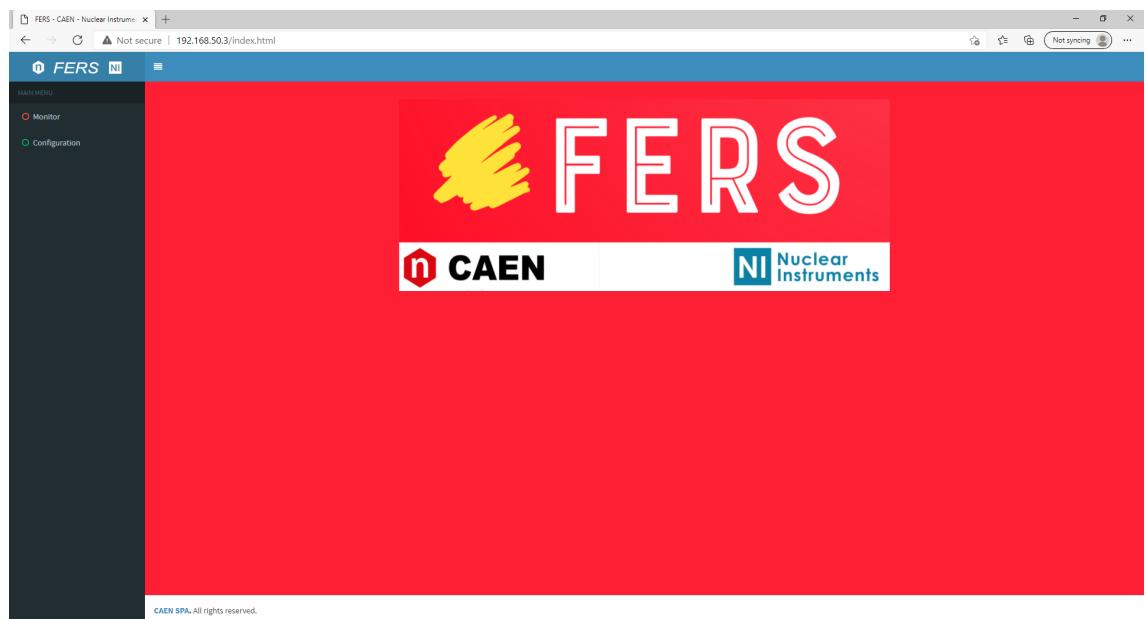

Fig. 11.7: Web Interface opening view.
1. Open a browser and enter the web address **192.168.50.3**. The homepage of the graphical web interface will open (see **Fig. 11.7**).